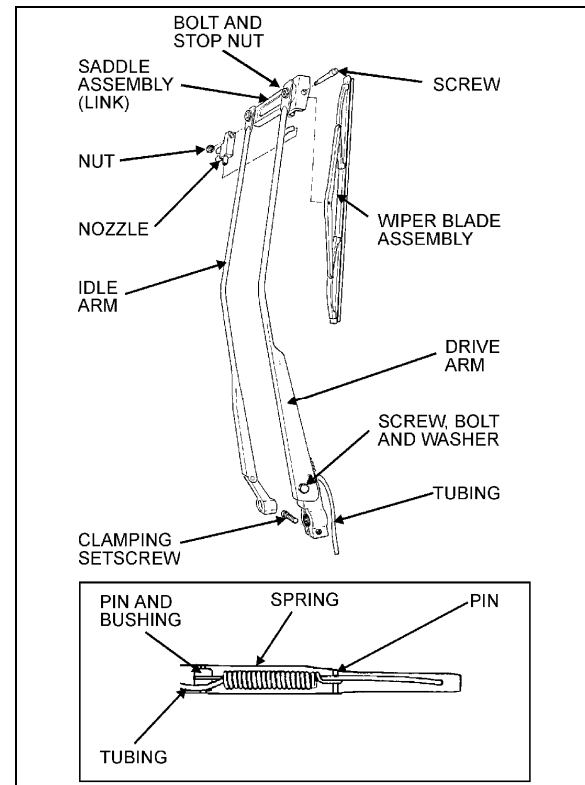

FIGURE 36: LOWER WINDSHIELD WIPER
1. Remove the cap nuts from the wiper arm pivot shafts (Fig. 36 and 37);